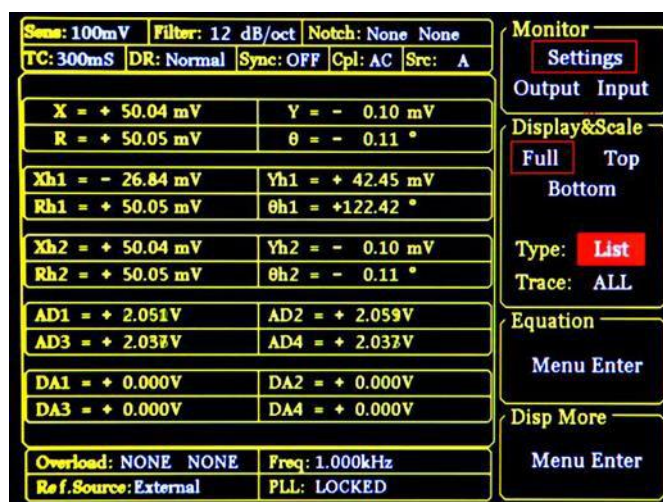

Fig.29 <Full>-<List> Display
4) <List>: display the value of the fundamental wave and two harmonics of the input signal and AUX_ADC, AUX_DAC on rear panel at the same time. The interface is shown in Fig.29.